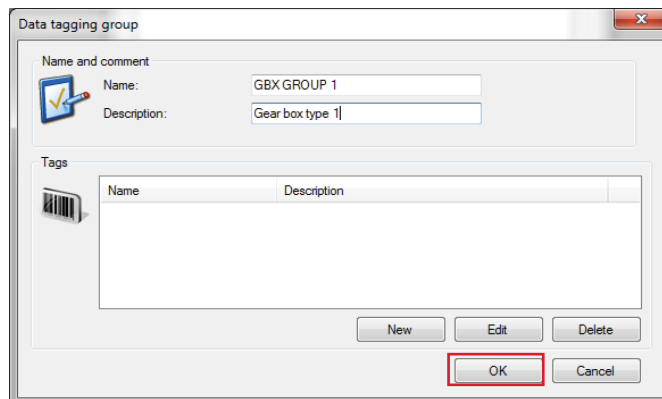

Fig. 3. Enter a name and description of the data tagging group.
- Enter an appropriated **Name** and **Description** for the new group and click **OK** (→ fig. 3).